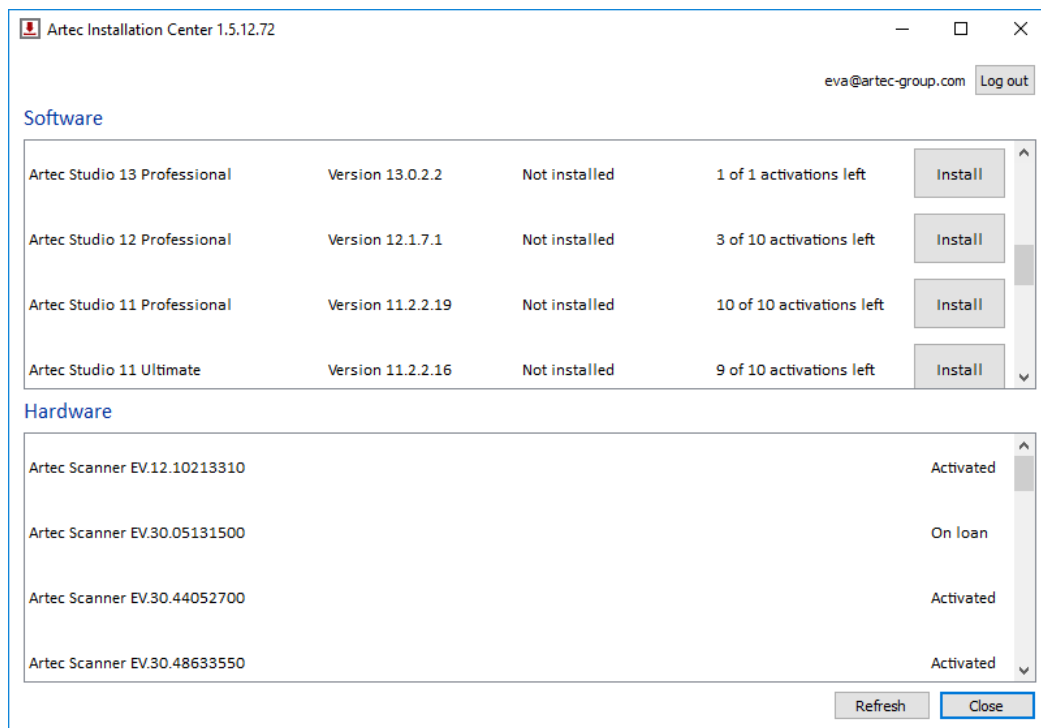

Figure 26: Artec Installation Center.
1. Run Artec Installation Center (go to the Start menu: click *Start* → *All Programs* → *Artec Group* → *Artec Installation Center*) to bring up the window shown in Figure 26.